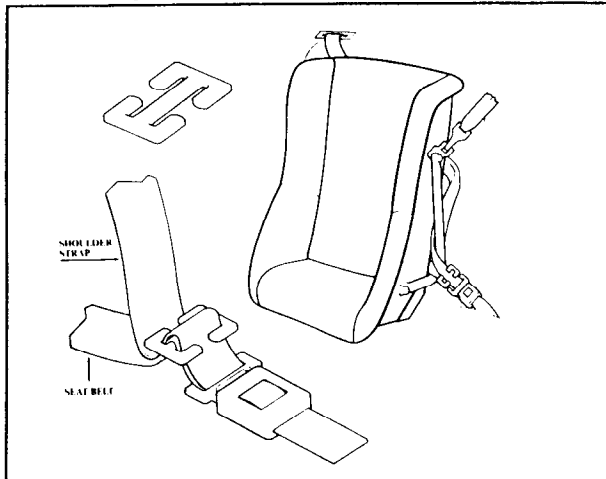

Figure 1: Use of the locking clip
Lap belts that have no retractor, but rely on the passenger to pull on the free end of the belt to set the lap belt to the proper tension can be used to secure your Columbia seat. Simply attach the locking clip as shown in Figure 1 once you have adjusted the belt to the proper tension. Snug the locking clip within 1/4" of the buckle.
“Continuous-Loop” lap and shoulder belts are those that have a lock plate (the “male” part of the seat belt buckle) that slides freely along a continuous piece of webbing running from the hip to the shoulder retractor. These belts can be used to secure your Columbia seat. Once the seat belt is snug, simply attach the locking clip within 1/2” (13 mm) of the lock plate as shown in Figure 1.
- ★ Snug the clip against your seat belt tab. See Figure 1.